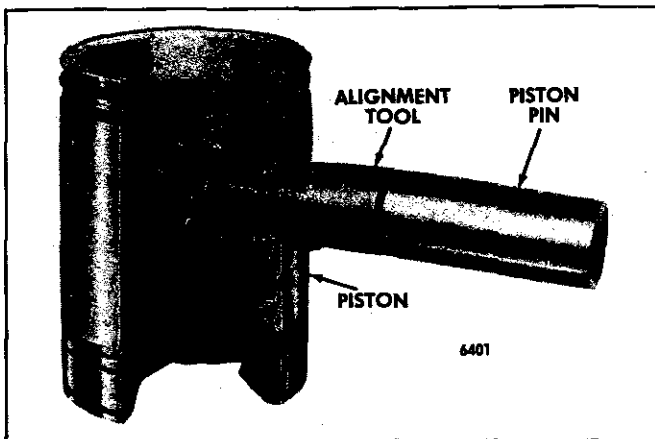

Fig. 14 – Installing Piston Pin Using Alignment Tool J 35619
5. Lubricate the piston pin with clean engine oil and install it (Fig. 14).